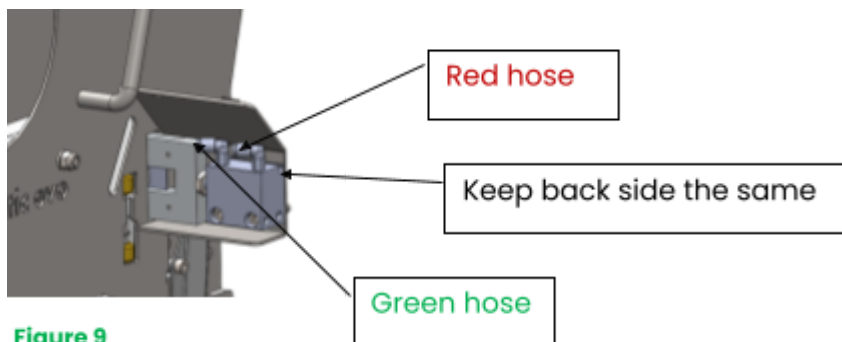

Figure 9
Step 6: Put the cutting device back in place as shown in figure 9. Keep the back of the cylinder flush with the holder. Secure the cylinder with the hexagon socket screws, washers and lock nuts.
Step 7: Connect the hoses as shown in Figure 9. Pay close attention to the colour!